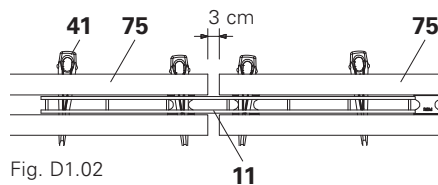

Fig. D1.02
Spacing between the SRU Walers (75) is 3 cm. (Fig. D1.02)